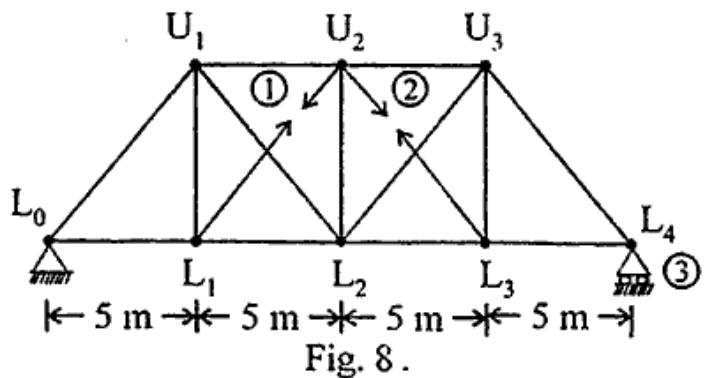

Fig. 8 .
8. Development flexibility matrix for the pin jointed plane frame with reference to coordinates 1, 2 and 3 as shown in Fig. 8 Axial flexibility of each member of the frame is 0.02 mm/kN.